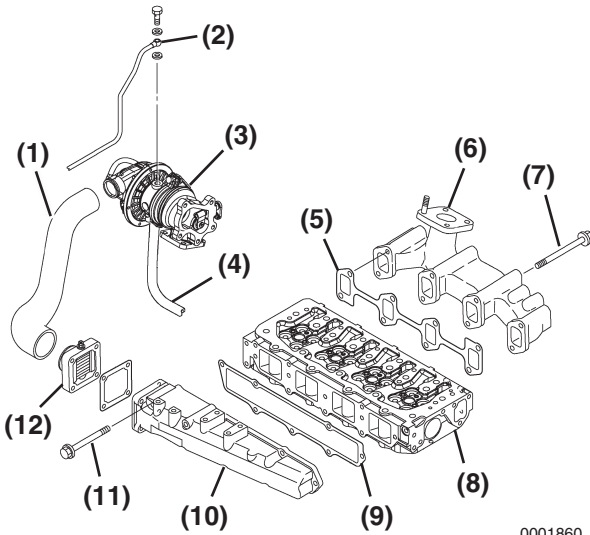

Figure 6-38
5. Remove the turbocharger-to-intake manifold hose (**Figure 6-38, (1)**) (if equipped).
6. Disconnect the electrical wire from the intake air heater (**Figure 6-38, (12)**).
7. Remove the intake manifold bolts (**Figure 6-38, (11)**). Remove the intake manifold (**Figure 6-38, (10)**). Discard the intake manifold gasket (**Figure 6-38, (9)**).
8. Disconnect the turbocharger oil supply (**Figure 6-38, (2)**) and the return lines (**Figure 6-38, (4)**) (if equipped).
9. Remove the exhaust manifold bolts (**Figure 6-38, (7)**). Remove the exhaust manifold (**Figure 6-38, (6)**) with the turbocharger attached. Discard the exhaust manifold gasket. (**Figure 6-38, (5)**).